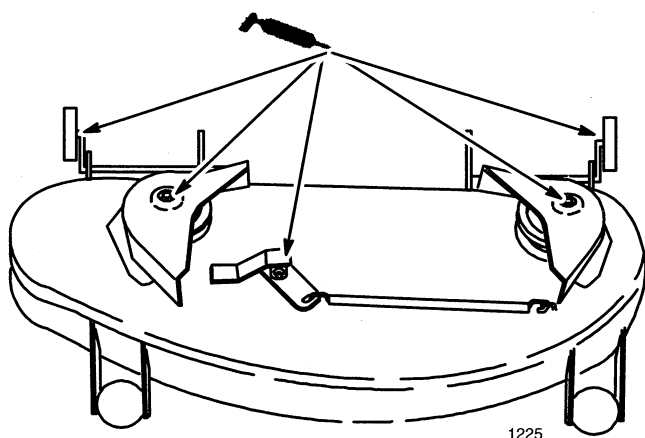

Figure 25
1. Lubricate the blade spindles, idler pulley arm and gage wheel bearings (Fig. 25).